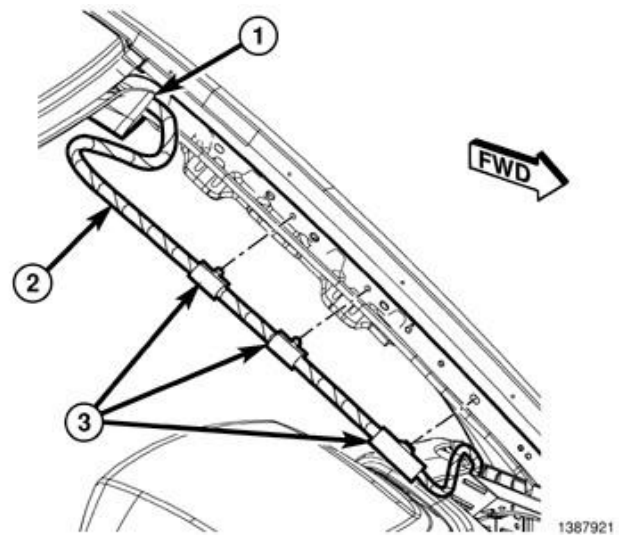

Figure 35 – Headliner Harness
25. As necessary, release the headliner wiring harness clips (3) from the A-pillar to allow enough wiring harness slack for lowering the headliner (Figure 35).
42. Reattach any headliner wiring harness clips (3) removed from the A-pillar to allow slack while lowering headliner (Figure 35).